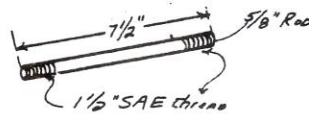

FIGURE 14
10. Make 2 axles as shown in Figure 14 below using an SAE thread $1 1/2"$ each end.